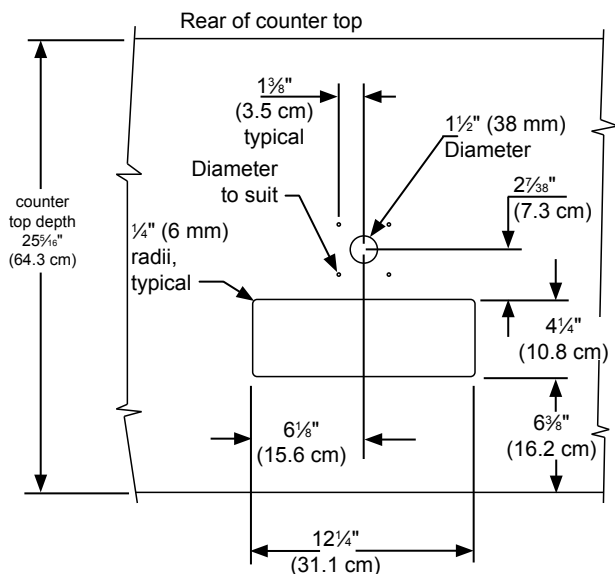

Figure 23
The cutout dimensions shown in Figure 23 are based on a 25 $\frac{5}{16}$ " (64.3 cm) deep counter top. Your counter top may be different than this and require other front to back dimensioning. Refer to the product dimensions on page 8 when determining the required dimensions.
4. If you are installing your keg refrigerator under a counter you will need to drill 5 holes in the counter top to mount the tower. The first hole is a 1 $\frac{1}{2}$ " diameter hole located at the center of the tower for the beer line, locate approximately 13 $\frac{1}{2}$ " (34.3 cm) from the front edge of the counter top (based on a counter top depth of 25 $\frac{5}{16}$ "). Next drill the 4 tower mounting holes per the dimensions in Figure 23. The hole diameter is dependent on the counter top material and if screw anchors are required. The screws supplied are in the literature pack and are a #10 x 1" type AB stainless steel screw. Mark and cut the rectangular cutout for the drain sump. After the holes are drilled and the keg refrigerator is in place under the counter top feed the beer line through the tower gasket, the 1 $\frac{1}{2}$ " hole in the counter top and the hole in the top of the keg refrigerator. Mount the tower to the counter top with the 4 screws provided. Place the counter top drain sump, from the literature pack, in the rectangular hole with the radius cutout to the rear around the tower and place the grate in the sump.